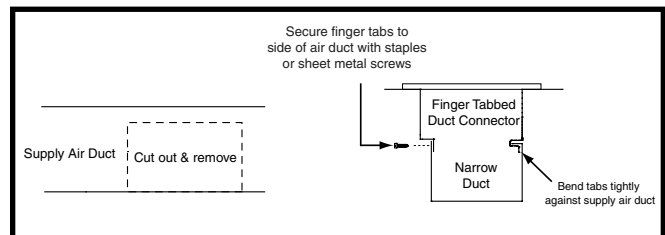

Figure 13. Narrow Ducts - Option 2
1. Cut and remove the top of the supply air duct as shown in Figure 13.
3. Bend the tabs on the bottom of the duct connector upwards and as tight as possible against the supply air duct (Figure 13).